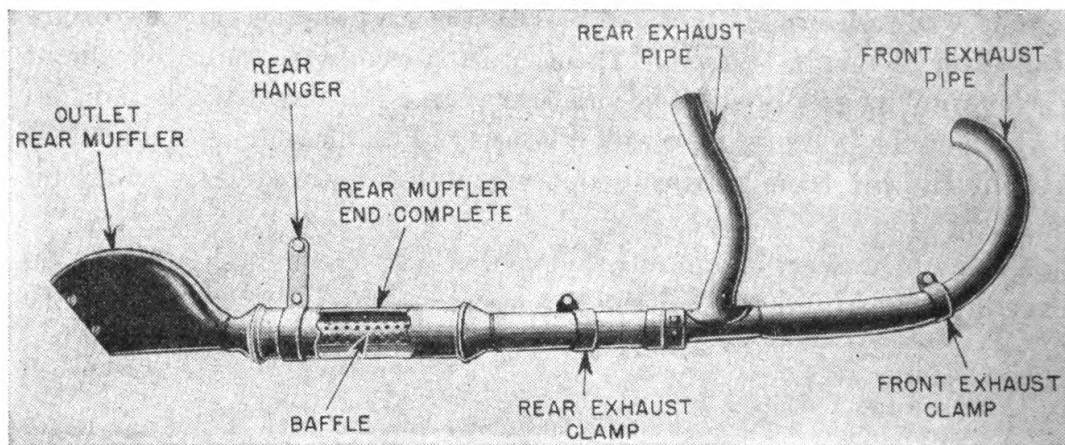

FIGURE 85.—Exhaust pipe and muffler.
**70. Exhaust pipe and muffler.**—*a.* A muffler is an expansion box in which exhaust gas pressures decrease to nearly atmospheric pressure before they are released into the air. This reduces the noise. In the conventional muffler (fig. 85), a series of baffle plates or tubes pass the gases back and forth before they reach the tail outlet. Some